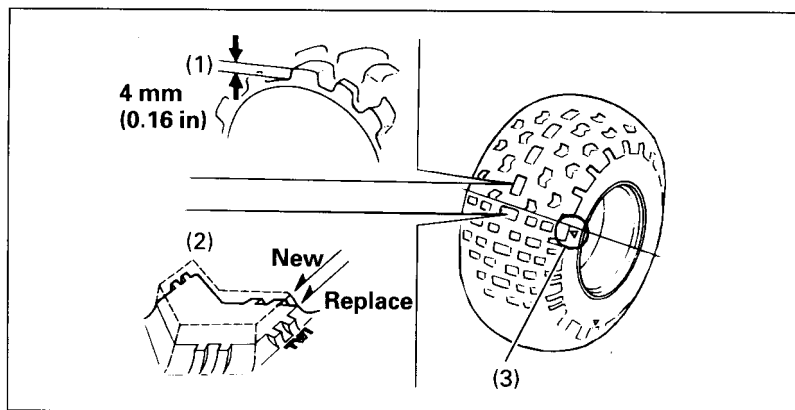

Fig. 4-35
To check the condition of a tyre tread, measure the groove depth (1) (Fig. 4-35) in the center of the tyre, or check the wear indicator (2). The minimum tread depth is 4 mm (0.16 in). When the tread depth is less than recommended, the tyre should be replaced.